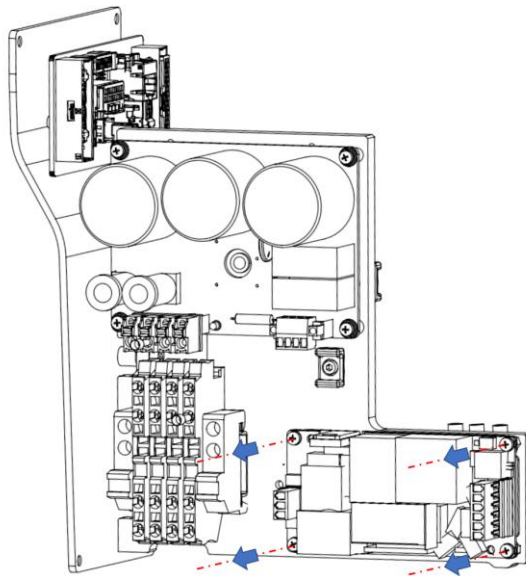

Figure 5-20 Removal of power module
- Step 3** Use the cross screwdriver to remove the combination screws from the switching power supply and take out the switching power supply, as shown in Figure 5-20.